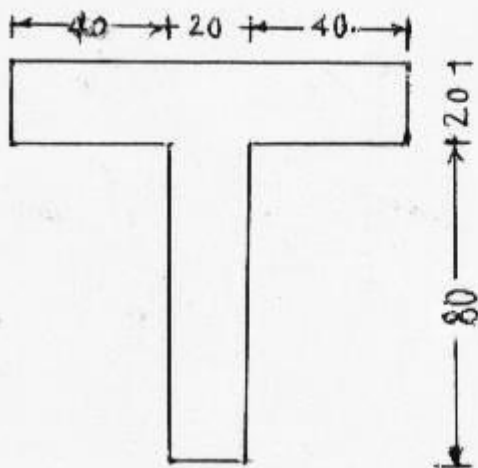

fig.5 Q4 (b) 2nd Alt. & Q5 (a)
- (a) Show that moment of inertia about horizontal centroidal axis of T section shown in **fig. 5** is $3.1422 \times 10^6 \text{ mm}^4$. 05
- (b) A cast iron beam of T section (as per **fig. 5**), is loaded as shown **07**
the maximum. Consider cross section as T as shown in *fig. 5*